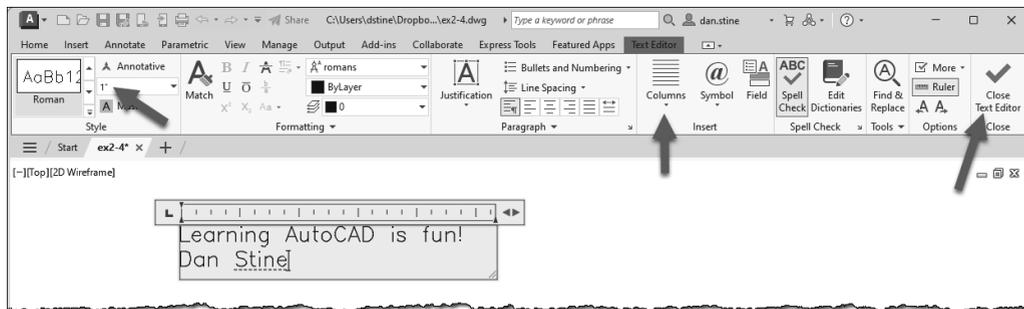

FIGURE 2-4.3 Mtext; text typed in text editor window; Text Formatting ribbon displayed
6. In the *Mtext Editor*, you will type the following text (Figure 2-4.3):
7. When finished typing text, click the **Close Text Editor** button on the *Ribbon* shown in Figure 2-4.3 above; notice the *Ribbon* changes while in text edit mode.
**TIP:** With the Mtext Editor open (Figure 2-4.3), you can Copy/Paste text in from other programs such as MS Word. Most of the formatting (e.g., font, bold, underline, etc.) will be preserved.